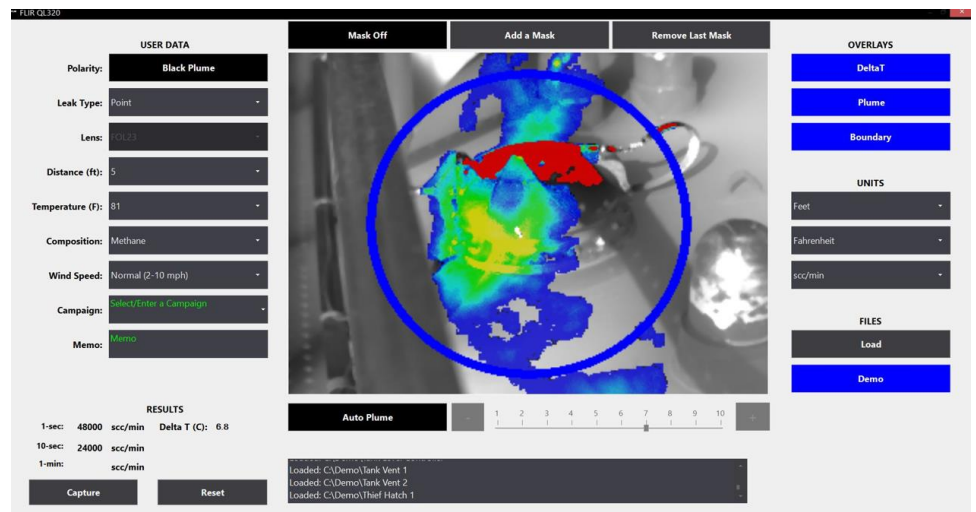
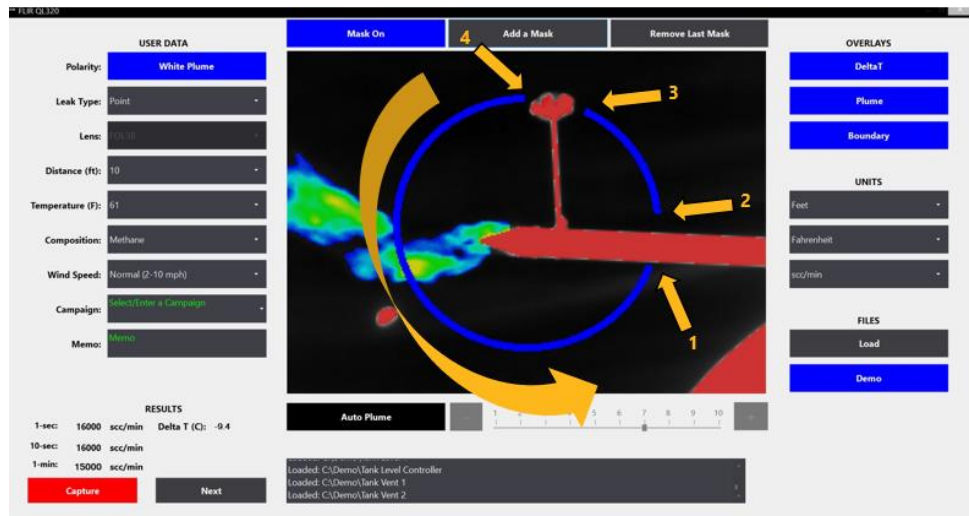
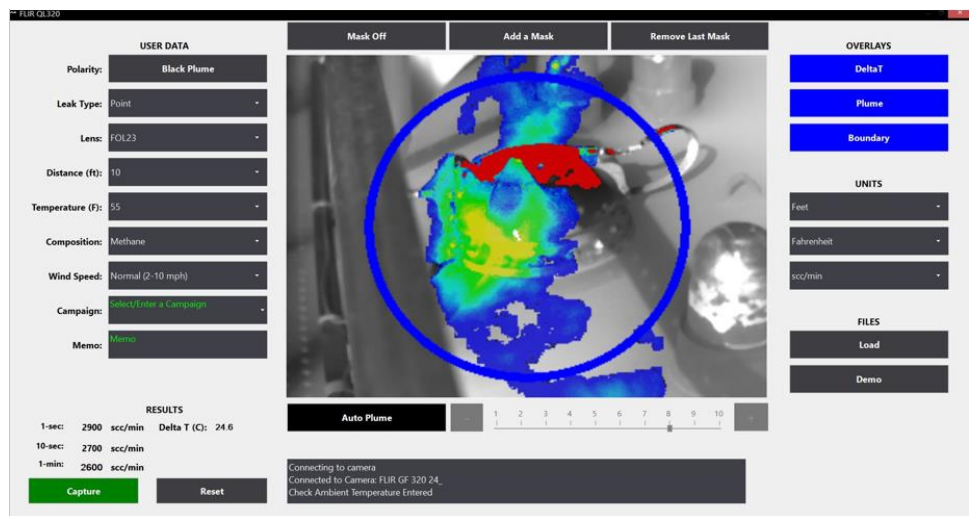

Figure 4.1 FLIR QL320 User Interface
Figure 4.2 FLIR QL320 User Interface with Masking Feature enabled.
Figure 4.3 FLIR QL320 User Interface with green Capture button.
Figure 4.1 below shows the User Interface (UI) of the FLIR QL320. In the center of the UI is the streaming image from the OGI camera. This will be a live streaming image if the FLIR QL320 is connected to an OGI camera.
There are three buttons above the central image which relate to the Masking feature. The Masking feature allows the user to delete sections of the measurement boundary (IE blue ring). In general, any areas of the image which are changing but are not related to the plume (IE interferences) should be removed from the measurement boundary. These interferences can affect the plume extraction threshold (in Auto Plume Mode, see Section 4.6) and/or it can bias the result high by adding noise to the plume pixels. Examples of common interferences are an LDAR tag moving in the wind, glint from a reflective surface or rotating equipment. Figure 4.2 below shows the User Interface of a FLIR QL320 with the masking feature enabled.
Note that the first button is blue when the Masking Feature is enabled and the text reads “Mask On”, as shown in Figure 4.2. When the Masking Feature is disabled, this button will be grey, and the text will read “Mask Off”. This is a toggle button. You can enable or disable this button by touching it with a finger or stylus. When the Mask Feature is enabled, the user can add masks by touching the blue ring. Traversing the ring in a counterclockwise direction, the user will touch the ring where the mask should begin and again touch the ring where the mask should end. In Figure 4.2, the first touch is labeled 1 and initiates the first mask. Touch 2 completes the first mask by deleting the measurement boundary between the two touches. If the user touches the measurement boundary again, the previous mask will be replaced, and a new mask will be applied upon the second touch. In Figure 4.2 a second mask is added. To add a second mask, touch the Add a Mask button to save the current mask and begin a new mask. Touch 3 then initiates the second mask and touch 4 completes it. To remove the last Mask added, simply hit the Remove a Mask button. In this way the user can select the active regions of the measurement boundary, avoiding any areas of interference. The example in Figure 4.2 shows a boundary with two masks applied.
When the FLIR QL320 is connected to an OGI Camera, there are two controls on the bottom left of the User Interface named **Capture** and **Reset**. The **Reset** button will reset the background, plume extraction and results. You should hit the Reset button any time you move or reposition the camera, and any time a significant interference enters the field of view (such as a person walking between the camera and the plume.) Following a Reset, the Capture button will be disabled as shown in Figure 4.1. It will remain disabled until 10 seconds of results have been averaged. Once 10 seconds of results are averaged, the Capture button will be enabled and it will change color to red, as shown in Figure 4.2. The red color is an indicator that the 10-second average and the 1-minute average are more than 10% apart. After about 45 seconds the 1-minute average will begin reporting results. If the 10 second result is within 10% of the 1-minute result the Capture button will turn green as shown in Figure 4.3 below.